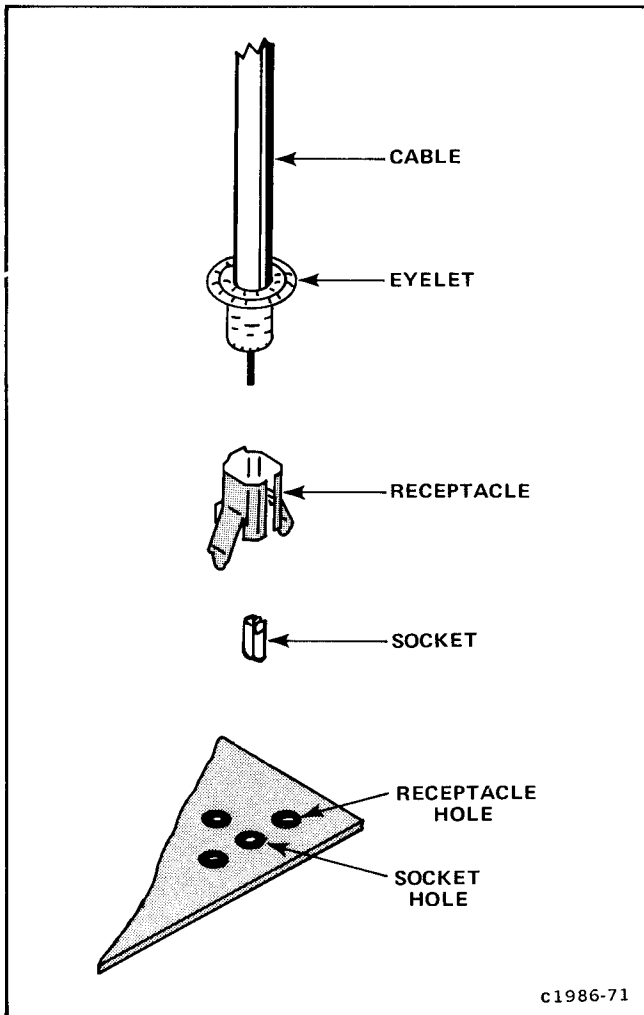

Fig. 4-7. Coaxial end-lead connector assembly.
4. Note wire color on single-conductor shielded cables (see Fig. 4-7 for identification) and connector to which each is attached.